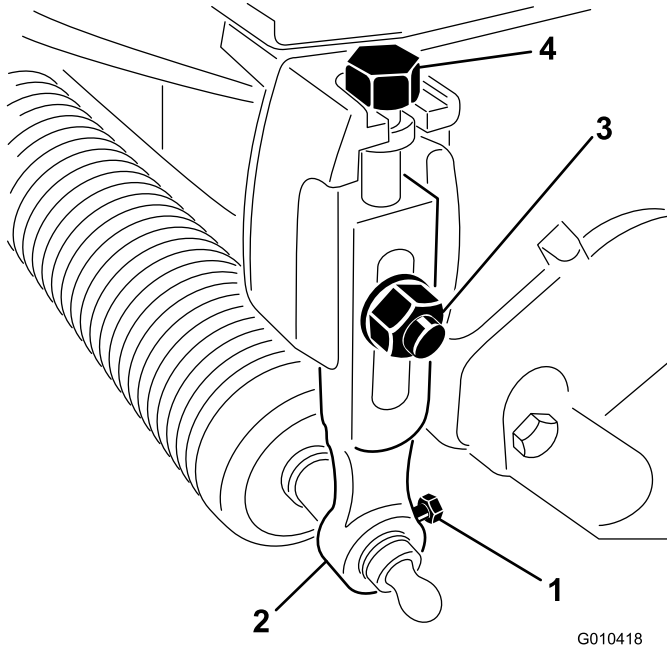

Figure 1
2. Loosen the bolts securing each end of the front roller to the height-of-cut arms (Figure 1).
3. Remove the carriage bolts, washers, and locknuts securing the height-of-cut arms to each cutting unit, and remove the height-of-cut arms and roller assembly (Figure 1).
4. Remove the height-of-cut adjusting bolts from the height-of-cut arms (Figure 1).